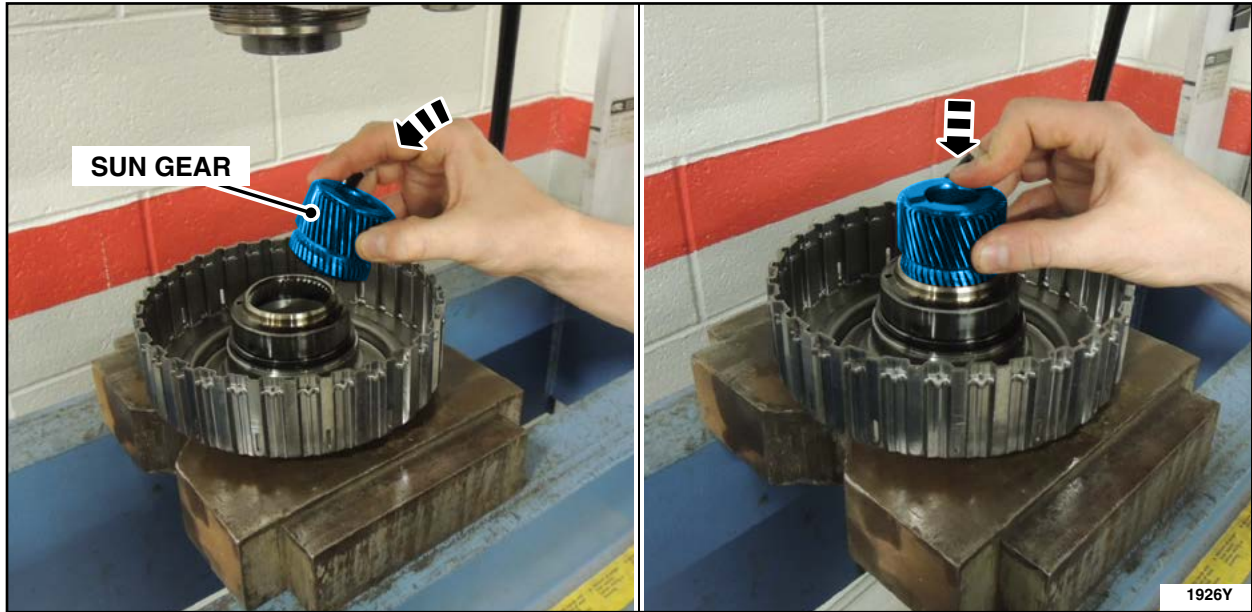

FIGURE 25
22. Install the original sun gear onto the *new* coast clutch cylinder assembly. See Figures 25 and 26.